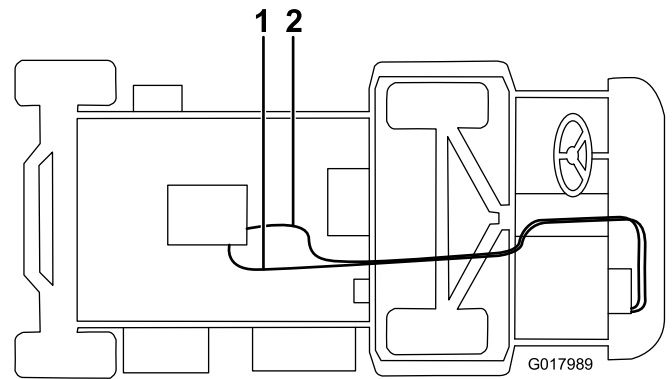

Figure 12
5. Connect the long hose to the heater valve with a hose clamp, and route it under the unit, over the axel, and to the straight fitting (Figure 12). Cut excess hose to fit.
6. Connect the shorter hose to the white fill tee with a hose clamp, route it through the r-clamp on the heater bracket, and connect it to the tee fitting in the lower radiator hose with a hose clamp (Figure 12). Cut excess hose to fit.